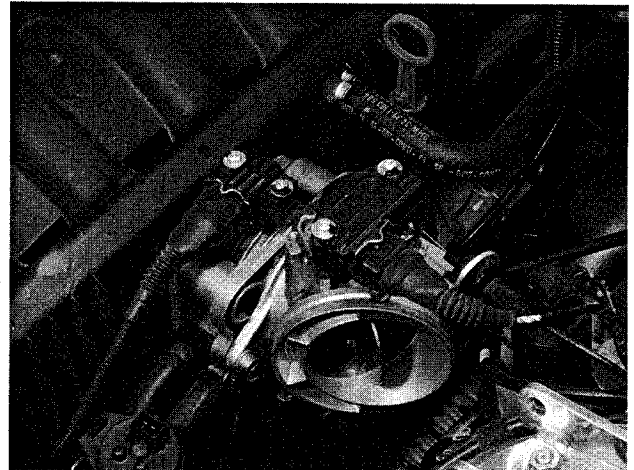

Fig. 10. Throttle housing assembly on M52 engine. Disconnect hoses, cables and harness connectors at and around housing.
13. Label and disconnect coolant hoses, cables, and harness connectors from throttle housing. See Fig. 10.